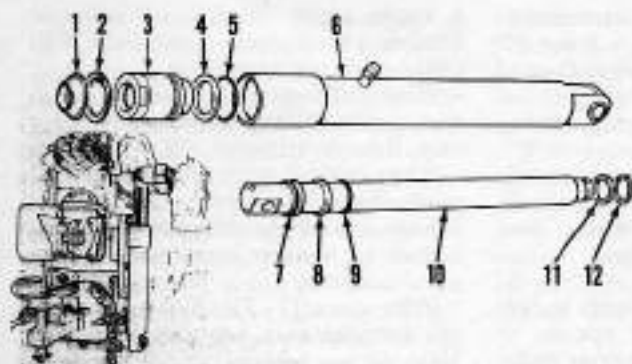

Fig. 217—View showing Model 1490 support cylinder location and exploded view of cylinder.
**393. MODEL 1490 SUPPORT CYLINDER.** Support cylinder (Fig. 217) is installed on some 1490 models to increase lifting capacity of rockshaft cylinder. It is connected to number one remote outlet port of three-way valve and works in conjunction with rockshaft cylinder.